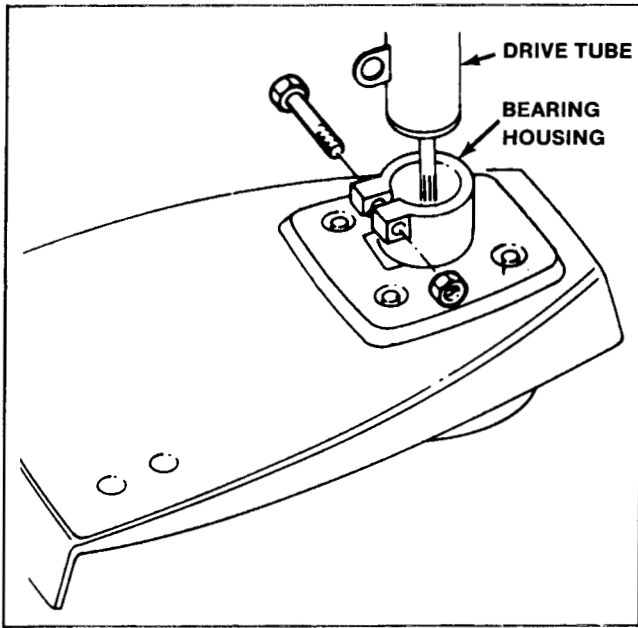

Figure 5
1. Remove the machine screw and nylon lock-nut that secures the bearing housing to the drive tube. See Fig. 5.